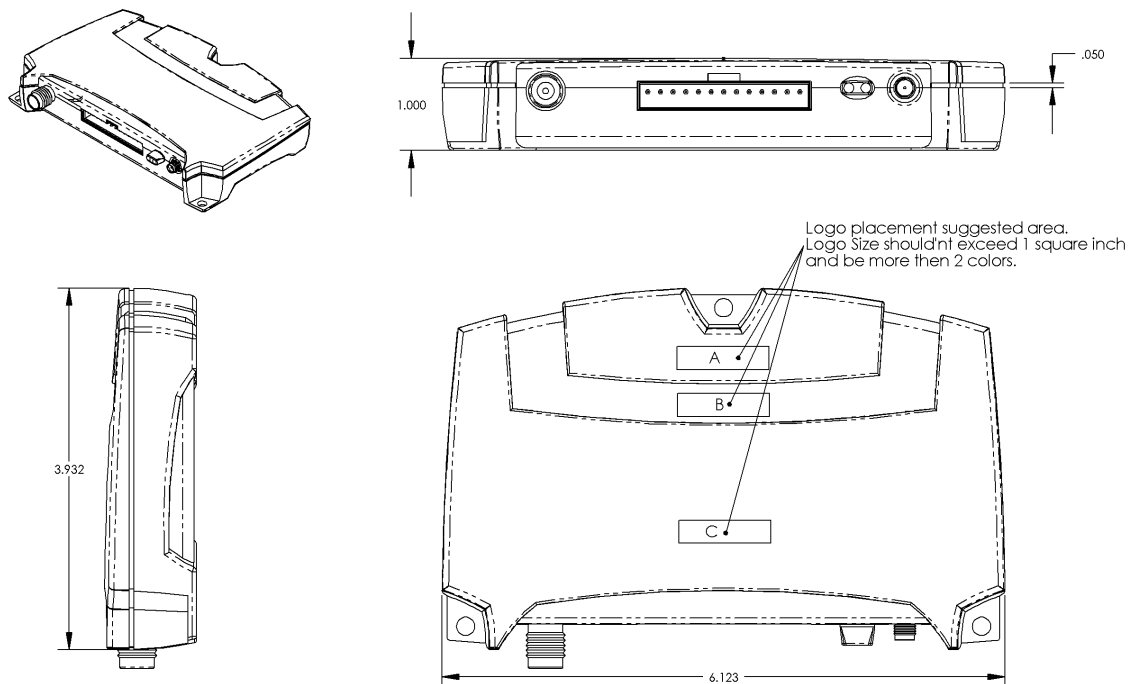

Figure 5 - LoCate Housing Layout
- 3) Two silver labels shall be fixed to the underside of the LoCate housing during manufacture. The top label shall include the Barcode information as detailed in paragraph 4.3 below. The label below shall contain the FCC certification information. Refer to Figure 5 in paragraph 4.1.
- 5) A label containing the LoJack Corporation company logo shall be pad printed in the top left-hand corner of the upper side of the LoCate housing. Refer to Figure 5 in paragraph 4.1.